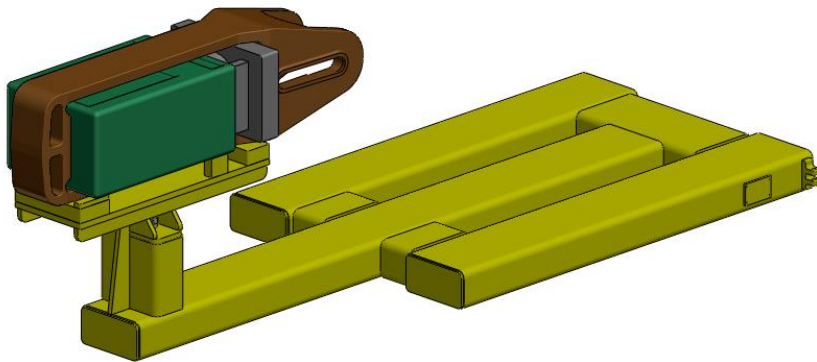

FIGURE 2
5. Raise the forklift until the rotating head contacts the draft gear assembly. Remove the retaining straps and lower the gear using the forklift (Figure 2).